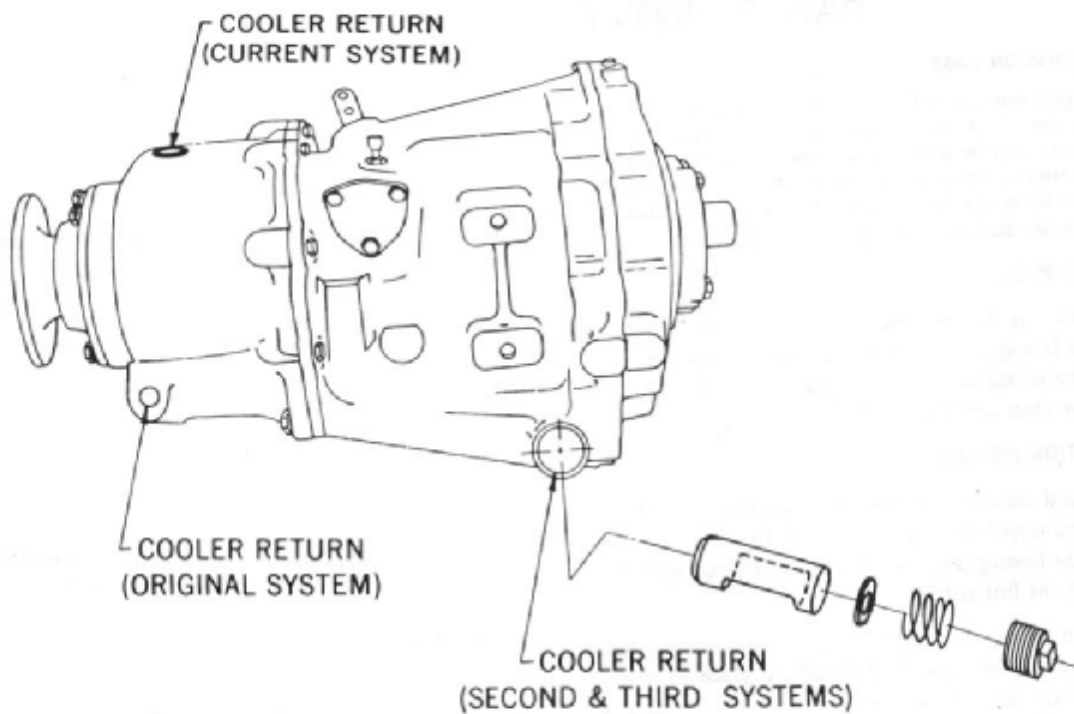
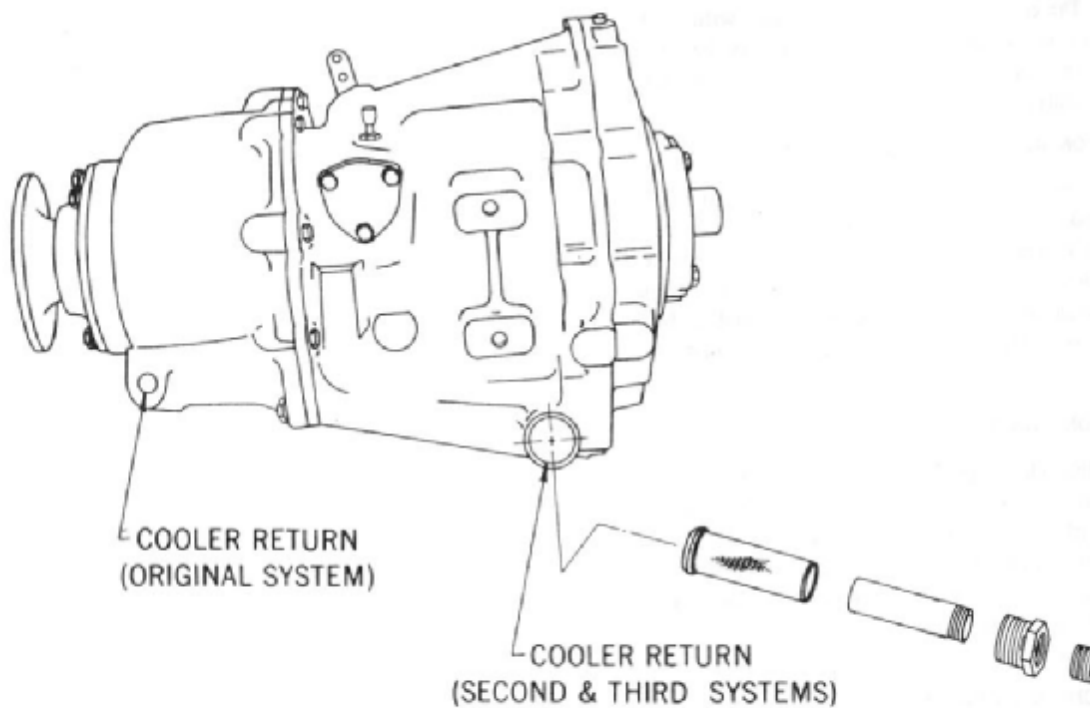
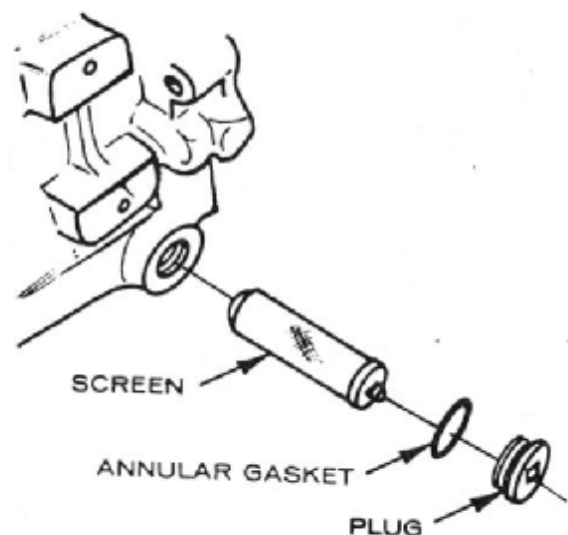

FIG. 6 VARIOUS COOLER RETURN LOCATIONS WITH PARTS USED WITH FOURTH SYSTEM SHOWN.
FIG. 7 VARIOUS COOLER RETURN LOCATIONS WITH PARTS USED WITH SECOND & THIRD SYSTEMS SHOWN.
FIG. 8 EARLY SCREEN & DRAIN PLUG
(1) NOT CURRENT PRODUCTION - available for repairing earlier units.
(2) SEE FIG. 7.
(3) SEE FIG. 8 - ALSO NOTE (1).
Four circulation systems have been used for cooler and lubrication oil flow to the reduction gear set and rear bearing of 2.10 reduction transmissions. Units which have the earliest circulation system have the cooler oil returned to a tapped hole which is located on the lower right side of the reduction housing, (Fig. 6).
Transmissions which have cooler oil returned through a bushing in the drain plug opening of the forward and reverse transmission (as illustrated in Fig. 7) will either have the second or third circulation system. Units which have the second system have a crooked track on the reduction adapter front face. Units which have the third system have two short straight tracks on the reduction adapter front face, (Fig. 5, Item C). A visual inspection of the adapter front face will be required to determine which of these two systems is being used.
Transmissions which have the fourth system have cooler oil returned to the top of the reduction housing (as shown by Fig. 6). Oil screen (71-A98A), tube (71C-84), bushing (4885B), and dipstick (71-A195) were removed and pump inlet shield (72C-98), washer (35-143), spring (5L-222), a $\frac{3}{8}$ " pipe plug (000444592) were added to transmissions which have the fourth system, (Fig. 6).
The original reduction housing (Part Number L5-1) was drilled and tapped to return cooler oil to the lower right side of the housing (Fig. 6). This housing can only be used with the first system.
Reduction housing (Part Number L5-1B) is drilled and tapped to return cooler oil to the top of the housing (Fig. 6). The correct housing must be used with each system; however, all three earlier systems may be updated to the latest system by including the proper parts in the assembly.
The oil strainer, annular gasket, and drain plug, illustrated in (Fig. 8), can only be used with cases having the case face machined to seal on the annular gasket.
Parts illustrated in (Fig. 7) are used with the second and third circulation systems. The oil strainer with an open end is also used as a service replacement part to replace the strainer illustrated in (Fig. 8) for use with the first circulation system.
The pipe plug illustrated in (Fig. 7) replaced the annular gasket and drain plug. Case threads are different for each plug, therefore these plugs are not interchangeable.
Parts used with the third circulation system which are omitted when changing to the fourth system are shown in (Fig. 7). Parts used in the fourth system are shown in (Fig. 6). Individual parts are not interchangeable. These parts may be changed if all parts of each group are used together.
- NOTE:** The oil inlet shield should not be removed from the forward and reverse transmission case; however, if removed or when a new case is used, the shield should be pressed into position with the opening located down in the transmission as shown in (Fig. 6).